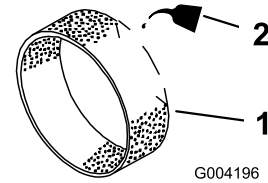

Figure 41
3. Put 3 to 6 cl (1 to 2 fl oz) of oil on the pre-filter (Figure 41).